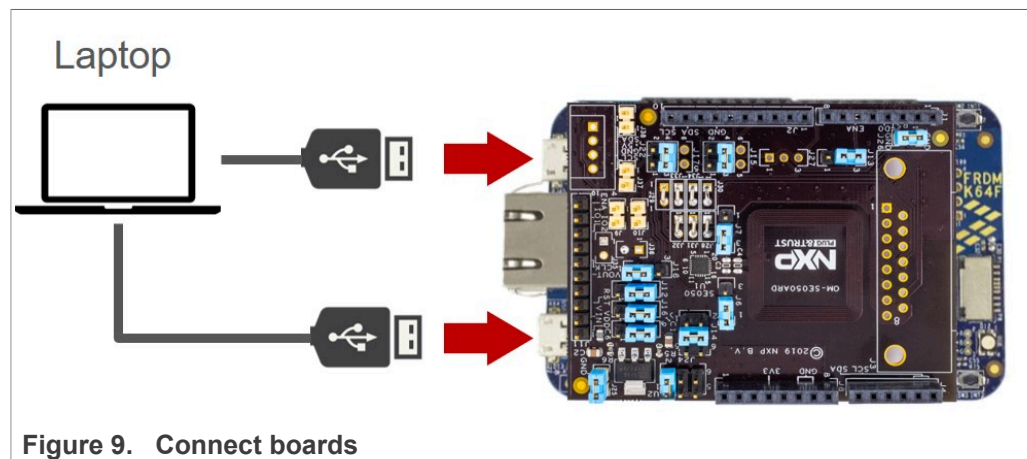

Figure 9. Connect boards
1. Mount OM-SE050ARD on top of the FRDM-K64F. Then, connect FRDM-K64F OpenSDA port and K64F port to your laptop as shown in Figure 9